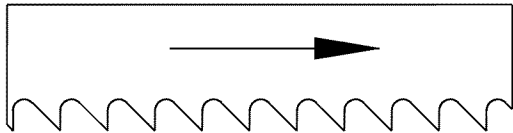

Figure 8 - Blade Direction
- Make sure the teeth are pointing in the right direction (see Figure 8).